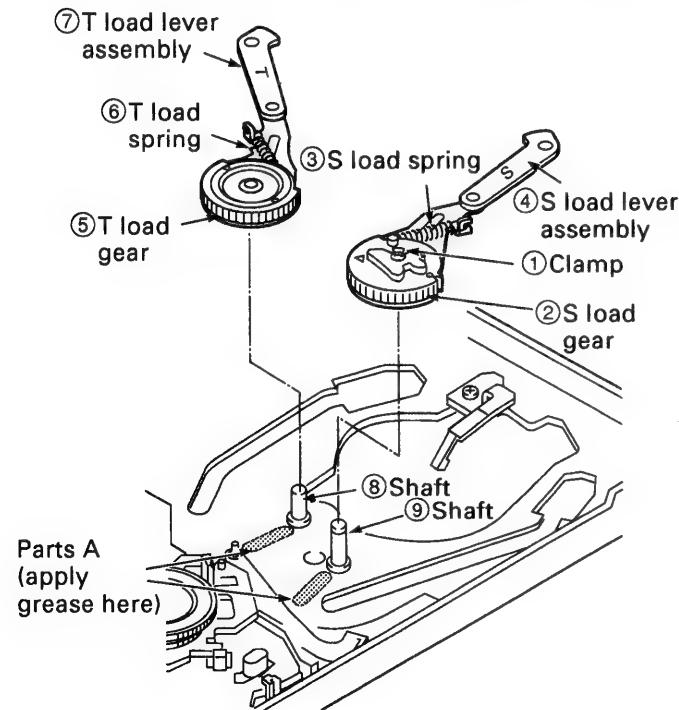
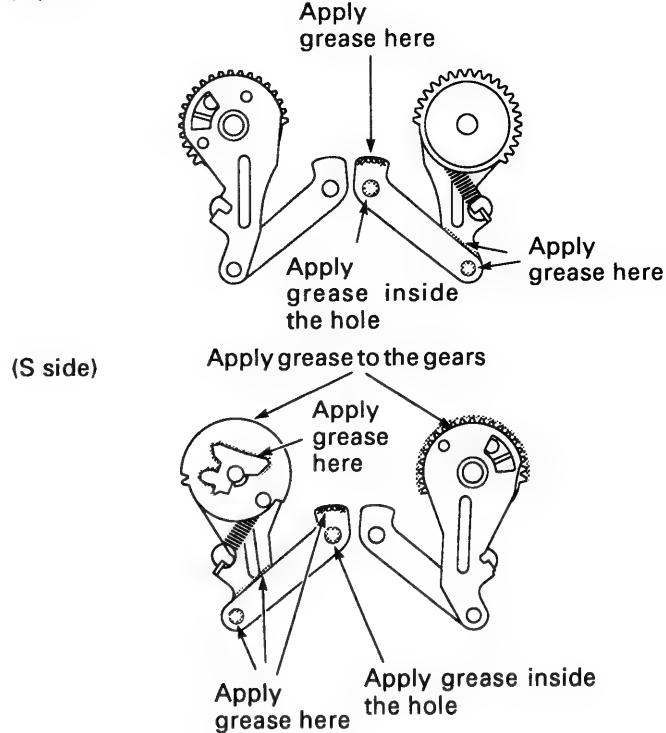

Fig.3-17-1
Fig.3-17-2
### 3-17. S LOAD GEAR, T LOAD GEAR, S LOAD LEVER ASSEMBLY AND T LOAD LEVER ASSEMBLY (See Figs.3-17-1, 3-17-2 and 3-17-3)
1. Apply grease (VHJ-0100) to the shafts ⑧, ⑨ and parts A shown in Fig.3-17-1. Then apply grease (VHJ-0100) to the parts shown in Fig.3-17-2.